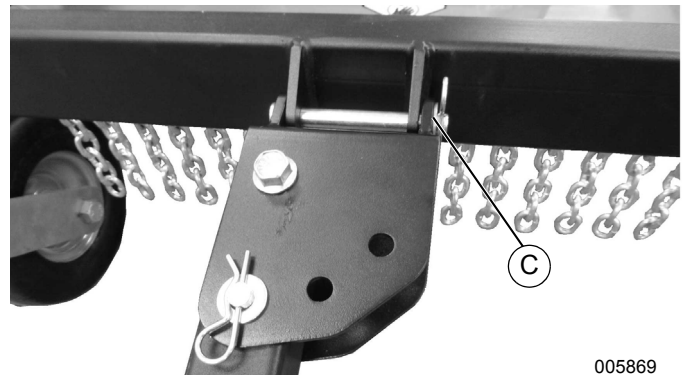

Figure 3-14. Offset Bracket for Right Side Offset
- See **Figure 3-14**. Support tow bar while removing clevis pin and hair pin with washer (C).